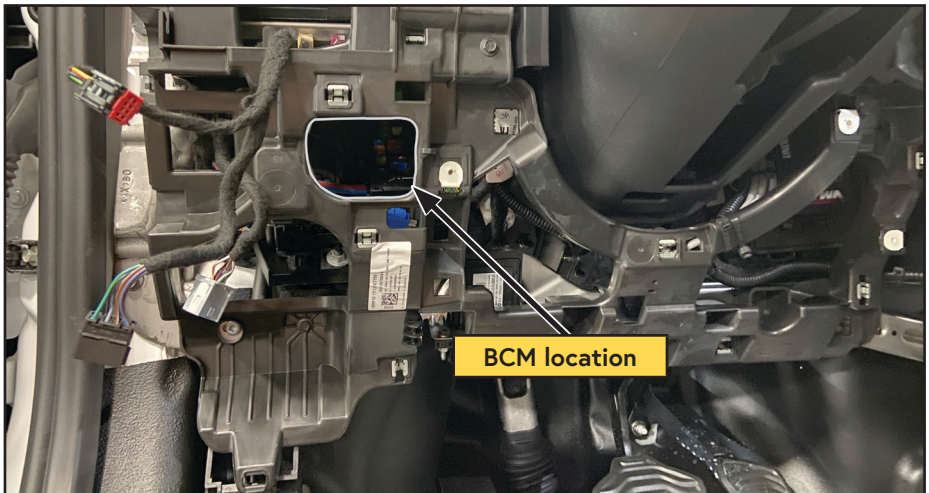

Figure 54 — BCM location
- Locate connector C2280G in the Body Control Module (BCM) to the left of the steering column (Figure 54).